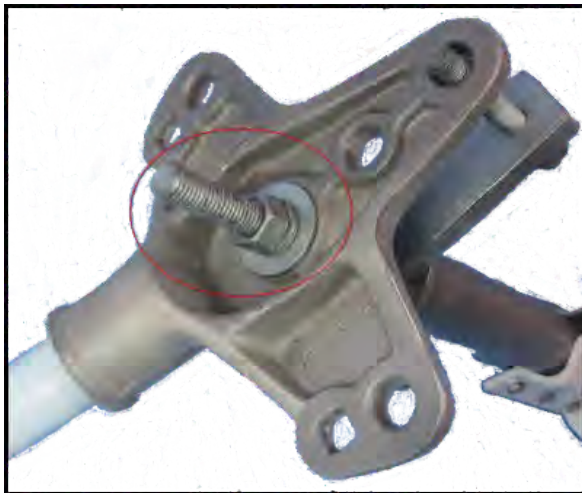

Figure 25: Nut and washers on mounting pole; extension arm, and leveling bracket
5. Place the vertical mounting pole through both center holes (see Figure 25).